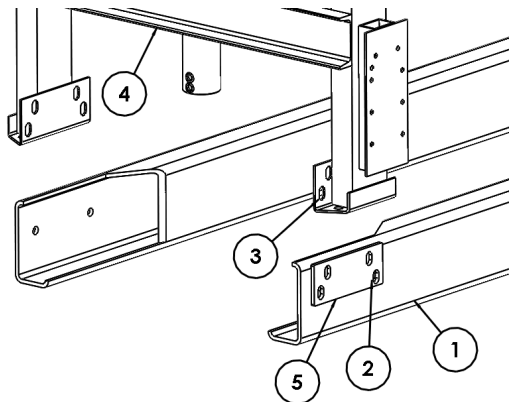

Figure 1.1
Most single and dual stage gantry frames come with integrated thru-bolt brackets which are designed to bolt through the sides of the chassis or trailer frame rails. To install, lower the gantry frame (4) onto the frame rails (1). Center the frame horizontally and place an equal number of spacers (5) on each side. Align parts for level and squareness and ensure clearance between truck cab and all other components. (Figure 1.1)